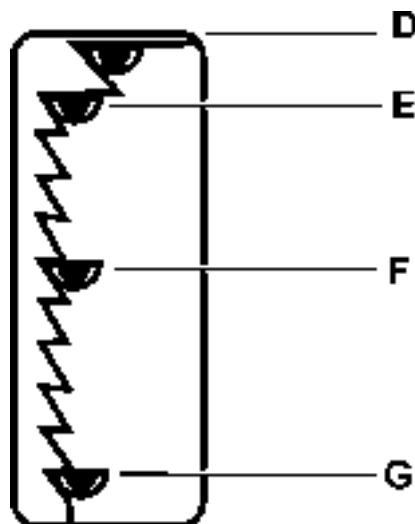

Fig. 4.14. Engine Speed and Shut Down Control Lever Positions
2. Place the transmission shift lever (8) in neutral.
3. Place the transmission neutral lock lever (10) in vertical "ON" position.
4. Move the engine speed and shut down lever (9) to low speed (idle) position E (Fig. 4.14).
5. Turn the electric system master (7) switch to "ON".
1. Perform all steps as described in items 1 through 3 and 5 through 6. Refer to "NORMAL START".
2. Place the engine speed and shut down lever in the OFF position (Fig. 4.14).
3. Press the engine starting button (6) on the instrument panel. Crank the engine until oil gauge (4) registers oil pressure or the low oil pressure warning light goes off. Release the starting button (6).
4. Move the engine speed and shut down lever to the idle position E (Fig. 4.14).
5. Perform all steps as described in items 7 through 10. Refer to "NORMAL START".
4. Depress and lock brake and decelerator pedal (5).
5. Move engine speed and shut down lever (8) to the large notched OFF position (Fig. 4.14).
6. Turn the electric master switch (6) into OFF position.
1. Place engine speed and shut down control lever (4) in the high idle position (G, Fig. 4.14).
2. Depress brake and decelerator pedal (1) to decrease engine speed.
3. Move forward transmission neutral lock lever (3) from ON to OFF position.
4. Place transmission shift lever (5) in the desired range. Refer to "SHIFTING THE TRANSMISSION".
5. Gradually release brake and decelerator pedal (1).